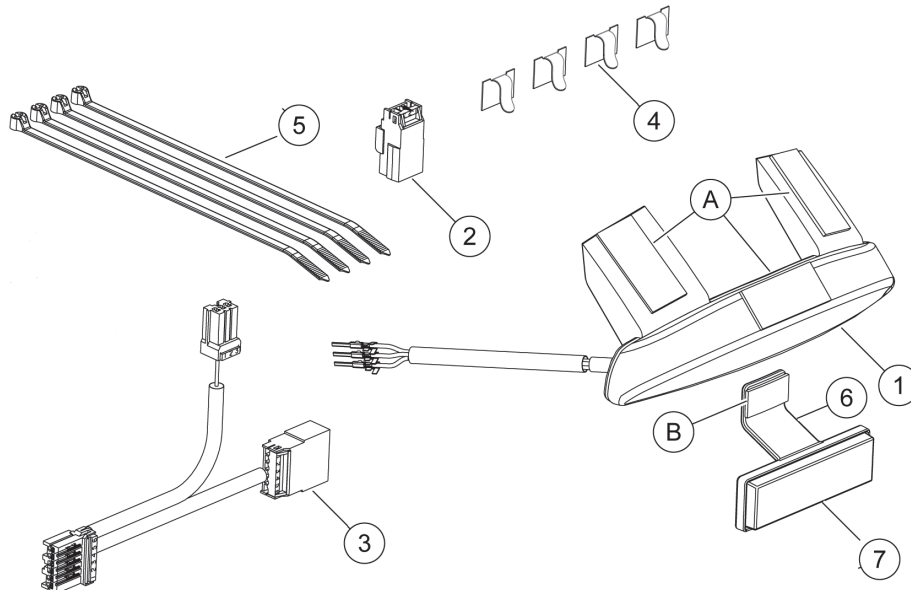

FIGURE 3. FENDER-EDGE LIGHT KIT
2. Connect the interconnect harness (3) between the rear lighting harness connector and the main wiring harness.
3. Route the light assembly wiring harness along the inner left-side of the fender to the fender pass-through hole. Secure the wire harness to the inner fender wall with wire clips (4) from the kit. Then route the harness to pass through the rear fender to the seat pan area and the interconnect harness.
4. **SEE FIGURE 3.** Insert the wires and terminals from the light assembly harness into the pin housing (2) from the kit:
6. Secure the interconnect harness in the seat pan area as necessary with cable straps (5).